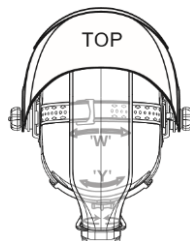

Fig.3
- The overall circumference of the headgear can be made larger or smaller by rotating the knob on the back of the headgear. (See adjustment “Y” in fig.3). This can be done while wearing the face shield and allows just the right tension to be set to keep the face shield firmly on the head without it being too tight.
- If the headgear is riding too high or too low on your head, adjust the strap which passes over the top of your head. To do this release the end of the band by pushing the locking pin out of the hole in the band. Slide the two portions of the band to a greater or lesser width as required and push the locking pin through the nearest hole. (See adjustment “W” in fig.3).